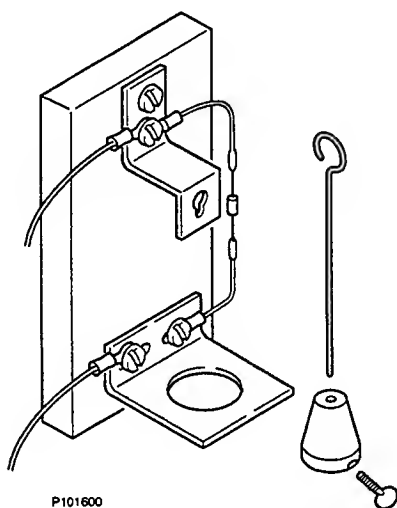

FIGURE 10: PLUMB BOB TILT ASSEMBLY
18) Locate plumb bob parts. Install thumbscrew into threaded hole on lead weight. Insert hook wire into tapered end of lead weight. Raise wire & weight up into bottom tilt bracket and hang from top bracket. Adjust and tighten screw firmly (see Figure 10).